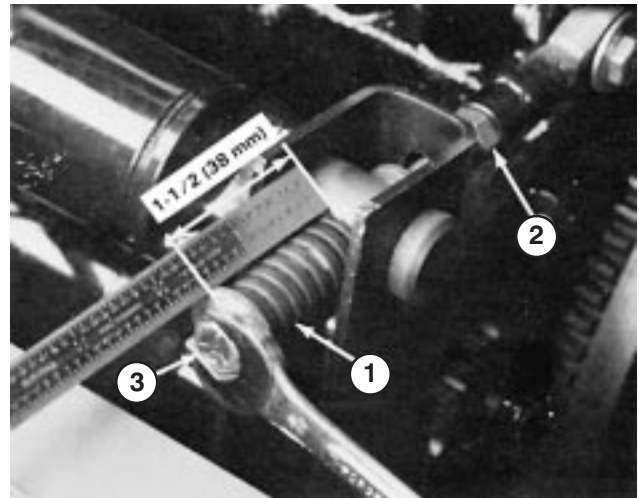
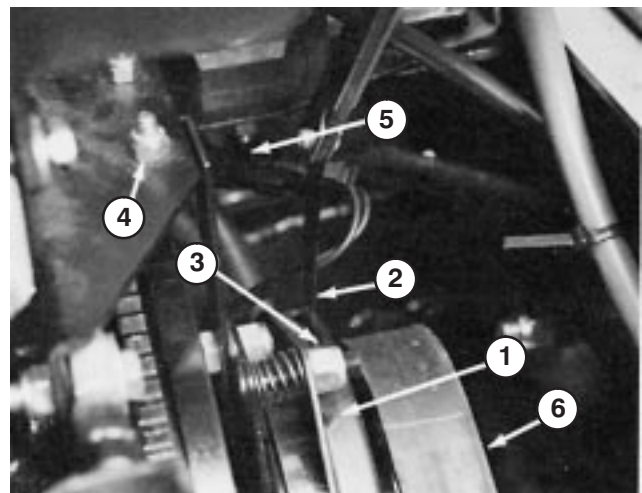

Figure 43
Figure 44
2. Loosen the tensioning rod jam nut (Fig. 43).
3. Use a 1/2" wrench to tighten or loosen the belt tensioning spring (Fig. 43). Adjust spring to a length of 1-1/2" (38 mm).
3. Using a 1/2" wrench, loosen the belt tensioning spring (Fig. 43) all the way.
4. Rotate PTO pulley toward the engine and remove the belt (Fig. 44).
5. Install the new PTO belt and re-tension the pulley spring to 1-1/2" (38 mm) (Fig. 43).
6. Tighten the jam nut (Fig. 43) and close the hood.
2. Remove the left hand clutch retainer bracket nut and bolt so that the retainer bracket rubber bumper can be removed (Fig. 44).
3. Unplug clutch electric connector (Fig. 44).
4. Adjust the air gap so that a .015 inch feeler gauge slides in between the clutch lining and friction plate with light pressure (Fig. 44). The gap can be decreased by turning the adjusting nut clockwise (Fig. 43).